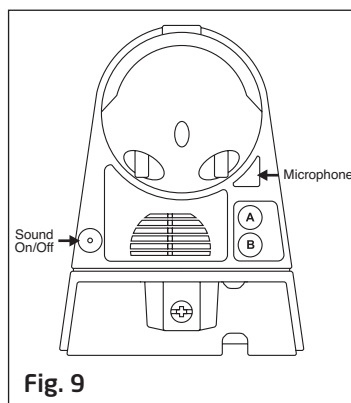

Fig. 9
■ Recording your own messages (Fig. 9)
Should the power to GuardCam be removed the sound setting will revert to option1 "warning you are being recorded by a security camera" as a default. If you wish to switch sound off completely please press the sound on/off button located on the base of the unit. See Fig 9.